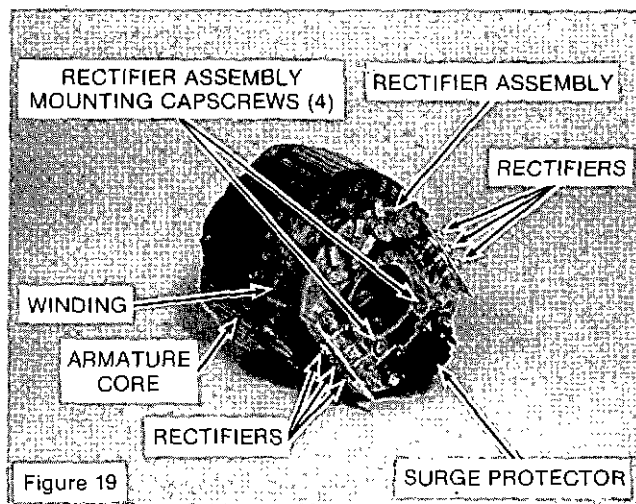

Figure 19
2. Clean dust and dirt from the exciter armature and rectifier assembly with a soft cloth or brush. (See Figure 19.) (See *cleaning methods.*)